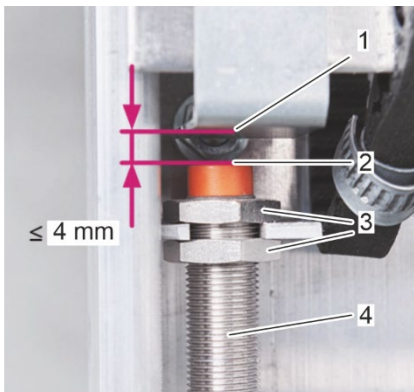

Fig. 40: Maximum switching distance
5. Ensure that the maximum switching distance of 4 mm between the proximity sensor (Fig. 40/2) and the cleaning carriage (Fig. 40/1) is maintained. Otherwise adjust the distance between the proximity sensor (Fig. 40/2) and the cleaning carriage (Fig. 40/1) using the thread (Fig. 40/4) and the nuts (Fig. 40/3) on the proximity sensor.